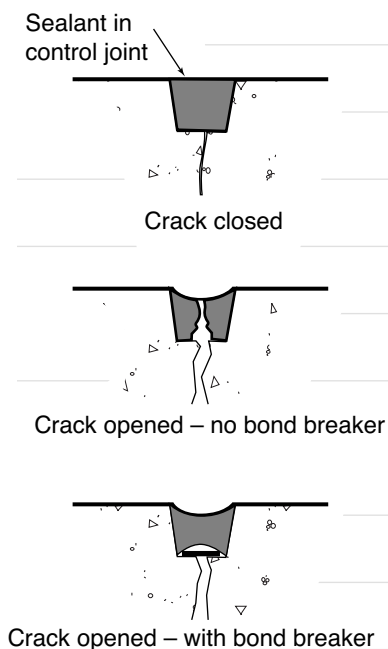

FIGURE 11
- ◆ On the exterior, joints must be sealed with gun-grade, oil-based caulking applied over a bond breaker (see Figure 11). Sealant should be protected from the backfill soil with asphalt paper, heavy polyethylene, or rigid insulation installed to grade.